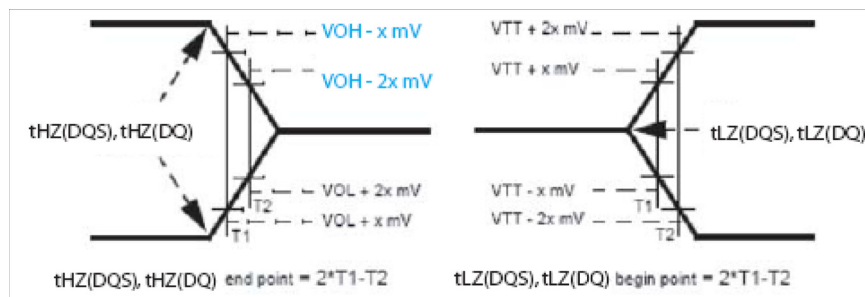

Figure 29 — tLZ and tHZ method for calculating transitions and endpoints
$t_{LZ}(DQS)$, $t_{HZ}(DQS)$ for preamble/postamble (see 4.13.2.3 and Figure 29)
4.13.2.3 tLZ(DQS), tLZ(DQ), tHZ(DQS), tHZ(DQ) Calculation
tHZ and tLZ transitions occur in the same access time as valid data transitions. These parameters are referenced to a specific voltage level which specifies when the device output is no longer driving tHZ(DQS) and tHZ(DQ), or begins driving tLZ(DQS), tLZ(DQ). Figure 29 shows a method to calculate the point when device is no longer driving tHZ(DQS) and tHZ(DQ), or begins driving tLZ(DQS), tLZ(DQ) by measuring the signal at two different voltages. The actual voltage measurement points are not critical as long as the calculation is consistent. The parameters tLZ(DQS), tLZ(DQ), tHZ(DQS), and tHZ(DQ) are defined as singled ended.